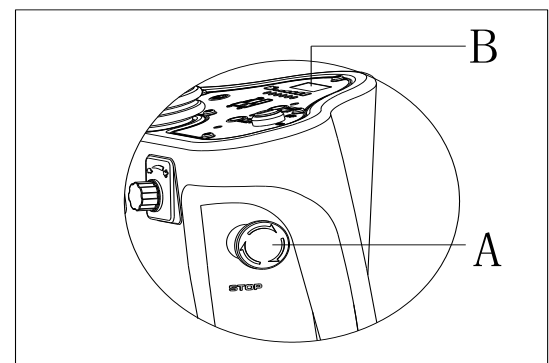

Figure 5
If there is any emergency during machine operating, press the emergency switch (A, Figure 5), then all functions of machine will stop, there is no display on control panel (B, Figure 5)
1. Insert key switch (40) and turn to "ON".
2. Press the pedal (6) forward by foot to lift brush assembly (11) from the floor.
3. Rotate speed adjusting knob (42) in counterclockwise until to the end.
4. Place the brush (A, Figure 5) or pad (B, Figure 5) center align with brush deck.
5. Press the pedal (6) backward by foot to lower down brush assembly (11). Sit on the seat, press the brush button (39) and depress the pedal (23) slightly, the brush/pad can be assembled automatically. Repeat these steps until brush/pad is installed.
7. Depress the pedal (6) forward by foot to lift the brush assembly (11) from floor, press brush remove button (41) to uninstall it automatically.